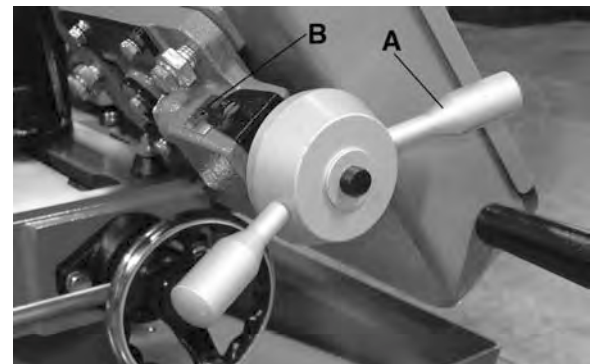

FIGURE 6
To tension the blade, turn the blade tension handles (A) Fig. 6, clockwise. A blade tension scale (B) located behind the tension handles is graduated to indicate blade tension from 0-25,000 PSI. Carbon blades (similar to the one supplied with this bandsaw) should be tensioned at 20,000 PSI. For bi-metal blades, the blade should be tensioned at 25,000 PSI. Do not exceed 21,000 PSI if using a 3/4" blade and 25,000 PSI using a 1" blade. Always release blade tension at the end of each work day to prolong blade life.